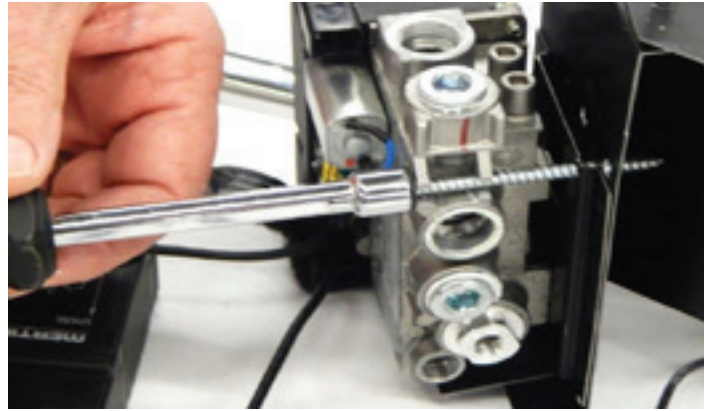

Figure 14
15. Remove the 2-1/2" long screw and washer holding the valve to the burner support with 5/16" nutdriver. Save the screw and washer. **See Figure 14.**